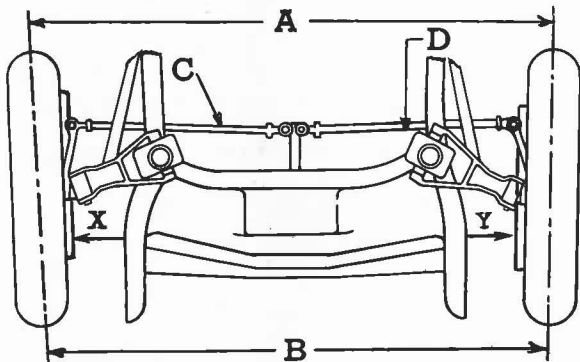

Fig. 23—Correct Toe-in Exists when Distance "B" is  $\frac{1}{32}$ " to  $\frac{1}{16}$ " Shorter Than "A"
1. Inflate all tires to recommended pressure. Adjust front wheel bearings. Center the steering worm on "high spot" and front wheels straight ahead before measuring. Dimension "X" Fig. 23, from brake backing plate to frame at first rivet back of bumper on left side, should be same within  $\frac{1}{8}$ " as "Y" on right side. If "X" and "Y" are not the same, lengthen the cross tube on short side to make them equal.
3. Measure the distance "B," Fig. 23, at or near hub height then measure the distance "A" at same height at rear of car. Distance "B" should be  $\frac{1}{32}$ " to  $\frac{1}{16}$  inch shorter than "A." Use maximum toe-in with maximum camber and low limit of toe-in when camber is at minimum value. If toe-in is not within these limits adjust as outlined in next paragraph.